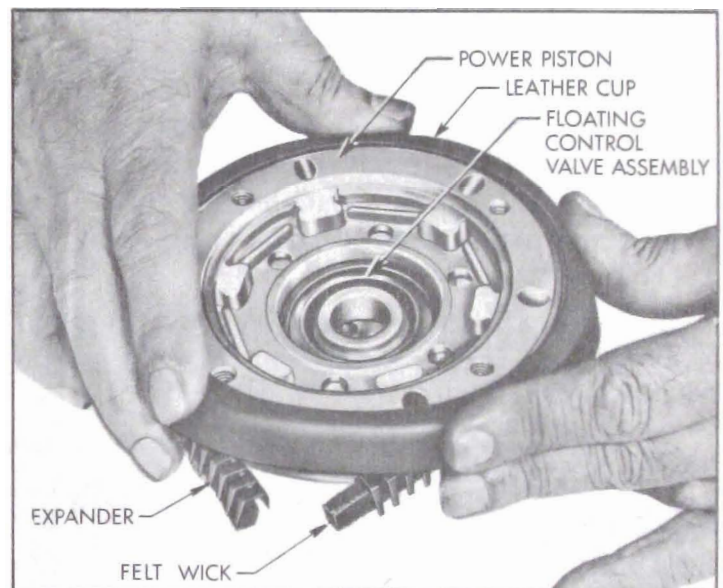

Figure 9-23—Installing Leather Piston Cup
8. Soak felt wick in Dynaflow oil and allow excess to drain. Position wick in cup expander and install these parts in groove on O.D. of power piston with expander fingers pointing toward piston hub. Hold in groove while leather piston cup is slipped over expander with its lip pointing toward piston hub. See figure 9-23. If new leather cup is being installed, use cardboard cylindrical retainer to confine cup during installation.